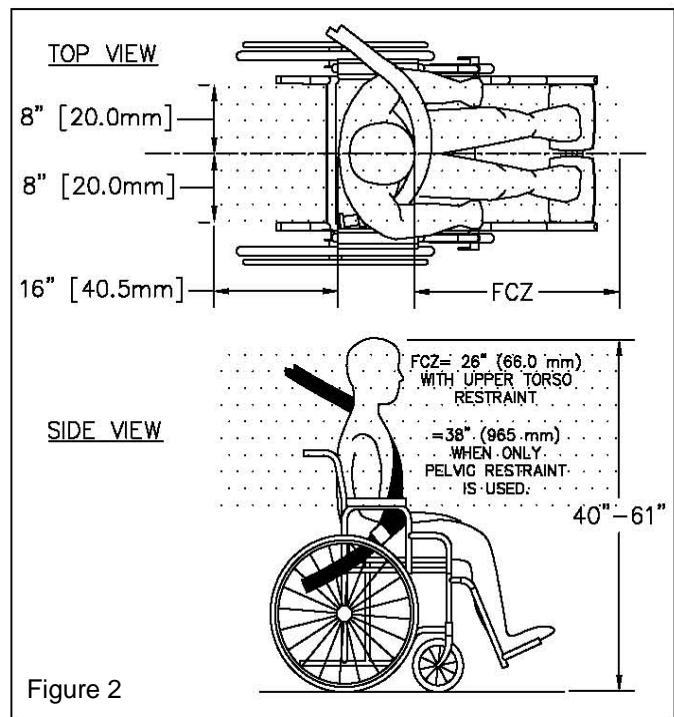

Figure 2
- Wheelchair passenger Frontal Clear Zone (FCZ) requirements (Figure 2) are based on potential movements of the passenger during a crash.